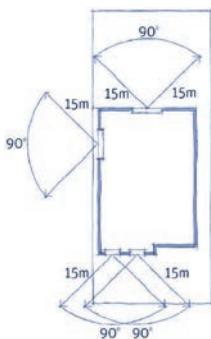

Figure 7A
- A 90 degree arc measured equiangular from the centre line of the window. Refer to Figure 7A; or,